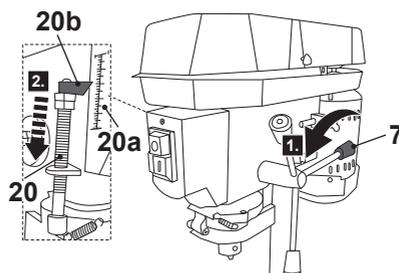

Fig. 12
1. Rotate the feed handle (7) to lower the drill bit to the required depth (Fig. 12, step 1), until the red pointer (20b) aligns with the desired value on the scale meter (20a) (Fig. 12, step 2).
2. Return the feed handle (7) back to its initial position afterwards.